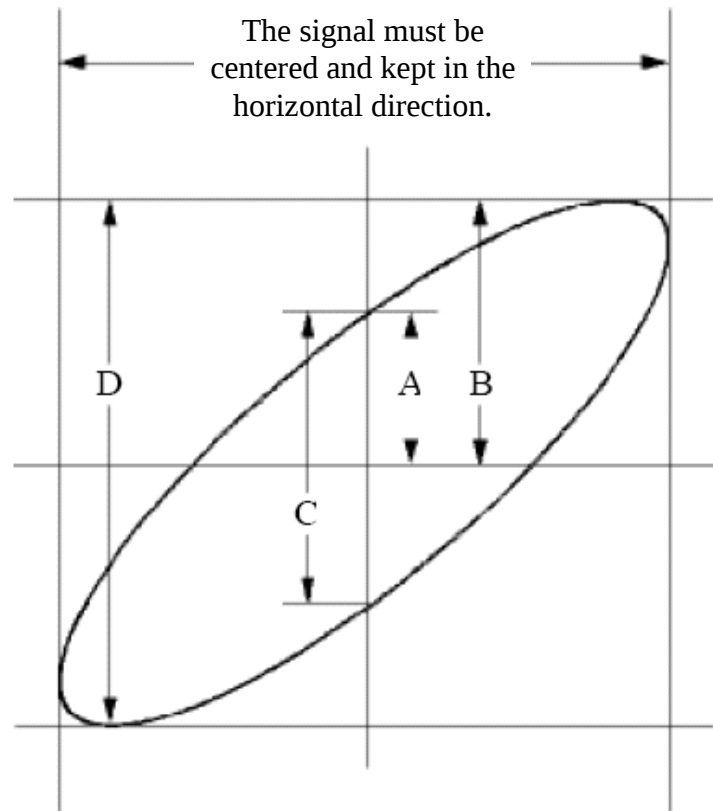

Figure 0-6 Lissajous Graph
- (1) Set the probe menu attenuation coefficient for **10X** and that of the switch in the probe for **10X** (see "How to Set the Probe Attenuation Coefficient" on P11).
- (2) Connect the probe of channel 1 to the input of the network and that of Channel 2 to the output of the network.
- (3) Push the **Autoset** button, with the oscilloscope turning on the signals of the two channels and displaying them in the screen.
- (4) Turn the **Vertical Scale** knob, making the amplitudes of two signals equal in the rough.
- (5) Push the **Acquire** button to display the right menu.
- (6) In the right menu, select **XY Mode** as **ON**. The oscilloscope will display the input and terminal characteristics of the network in the Lissajous graph form.
- (7) Turn the **Vertical Scale** and **Vertical Position** knobs, optimizing the waveform.
- (8) With the elliptical oscillogram method adopted, observe and calculate the phase difference (see *Figure 0-6*).